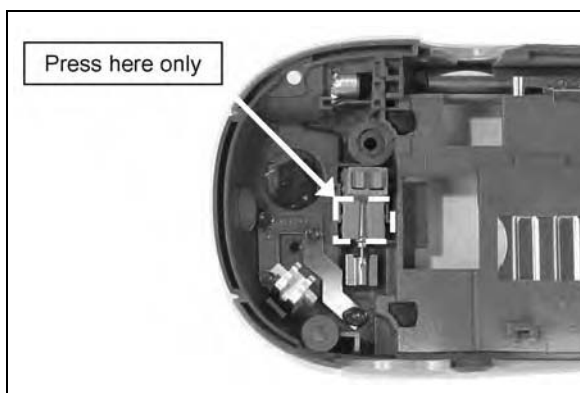

Figure 7-25.
3. Gently push down on the vibrator motor housing with the black stick until it is fully seated. See Figure 7-25.